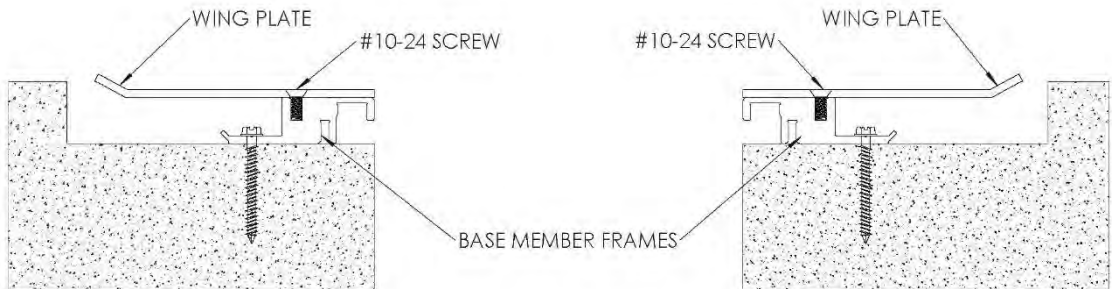

FIGURE 3
3. Reinstall the wing plate to the base member frame with the #10-24 screw. *Note: This step not necessary on the 2", 4" and 6" sizes.* **See Figure 3**